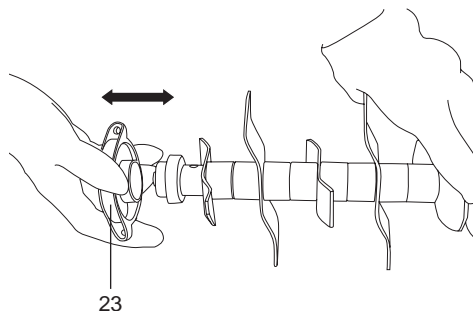

Fig. 25
4. To change the cutting device (21), raise the bearing seat (23) then withdraw the cutting device from the drive shaft.
5. Remove the bearing seat (23) from the cutting device (21), and attach it onto a new one. (Fig. 25)